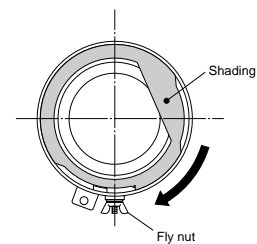

Fig 2-5
2. Check alignment to make sure the Plate shadings are the right positions as following Fig 2-5.